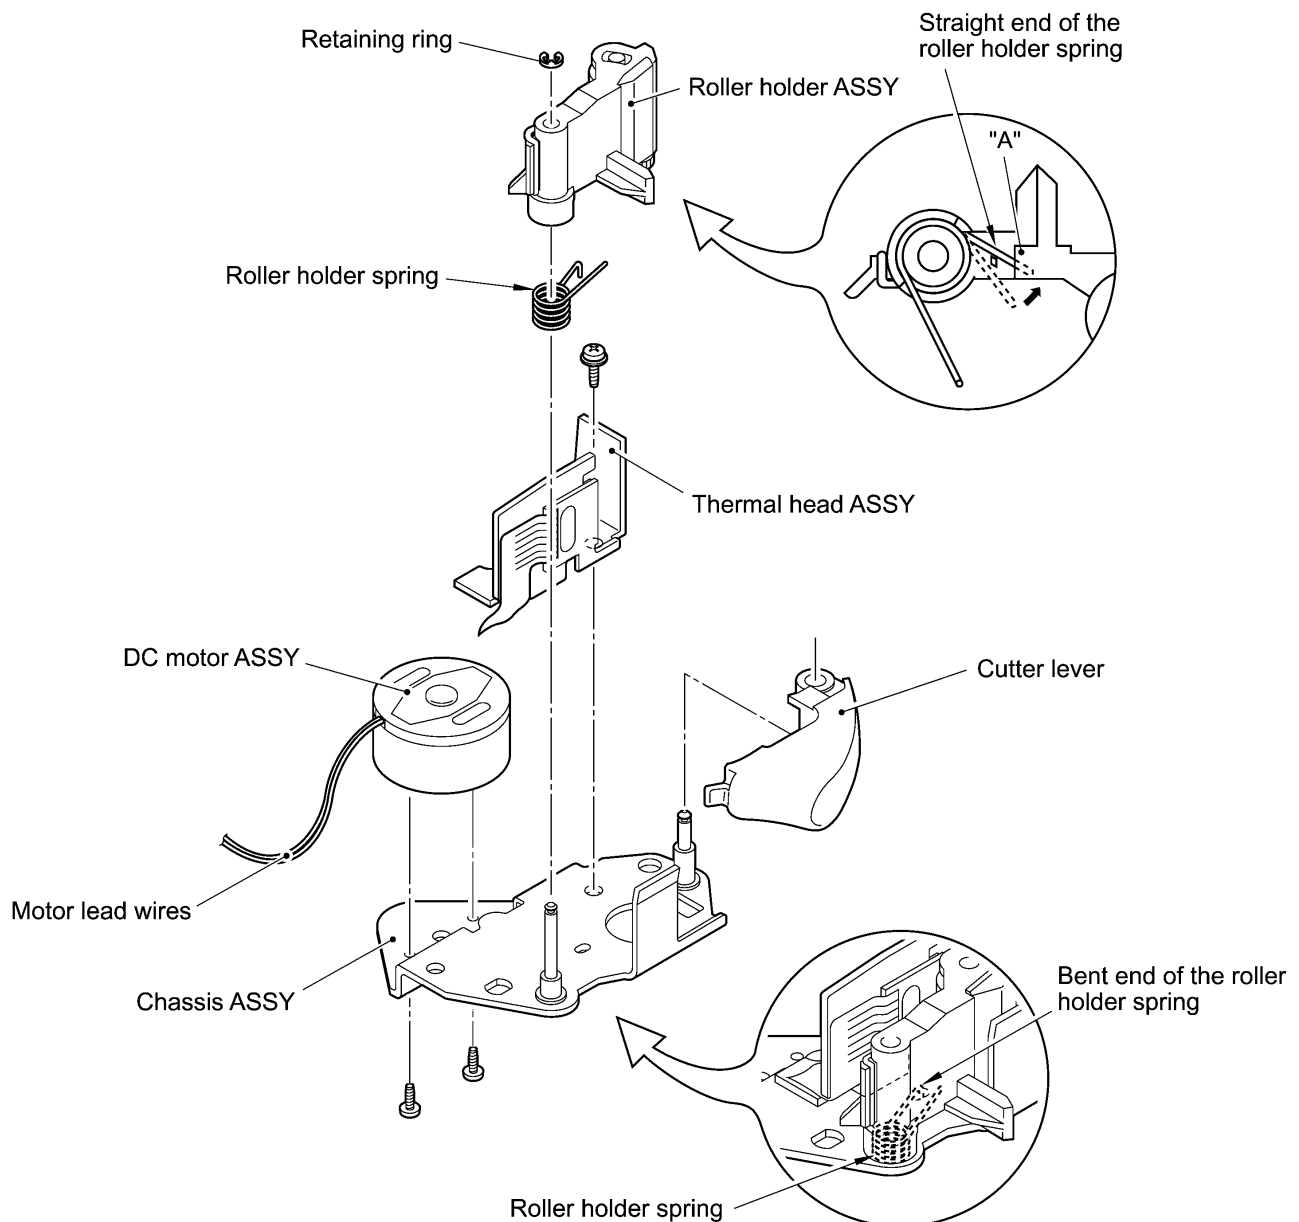

Figure 3.2-10 Assembling the Components of the Chassis ASSY
- (1) If the chassis ASSY has been disassembled, assemble the components, referring to page III-16.
- (2) As shown in Figure 3.2-10, fit the cutter lever onto the shaft on the chassis ASSY.
- (3) Put the chassis ASSY together with the cutter lever back into the bottom cover.